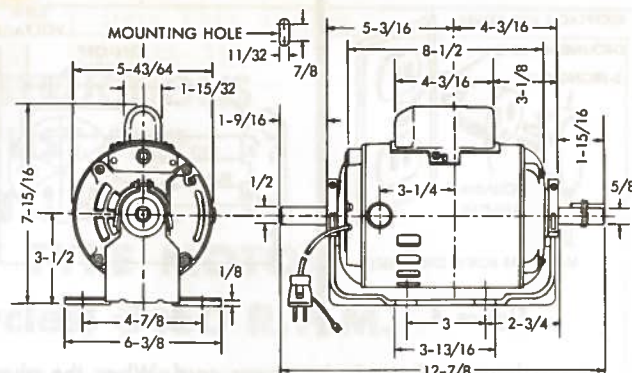

Figure 1
- The motor should be installed in a location as cool and dry as possible and should be protected against excessive deposits of dust and dirt. (See figure 1 for mounting dimensions.) The motor must not be confined in a small space that will restrict the flow of cooling air over internal electrical windings.